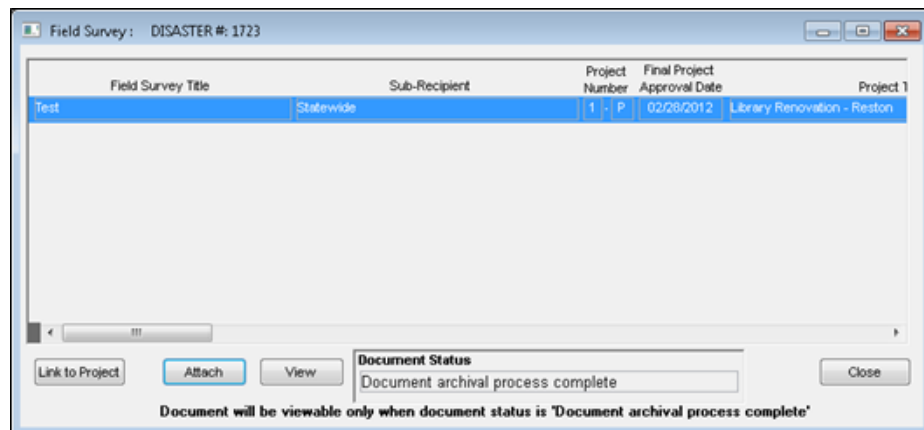

Figure 11-9: Field Survey Linked to Project
11. Highlight the project to which the field survey should be linked. Click the OK button. The Project is now linked to the attachment (Figure 11-9).